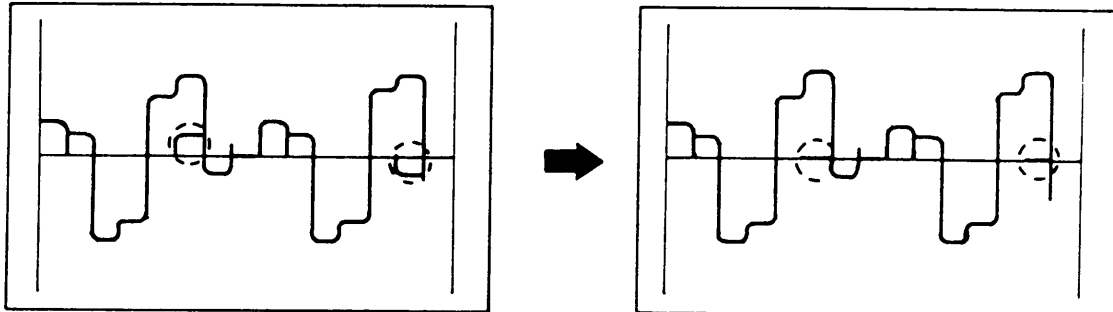

Fig. 3
3. Adjust "A" to 0 level with VR1301 as shown in Fig. 3.